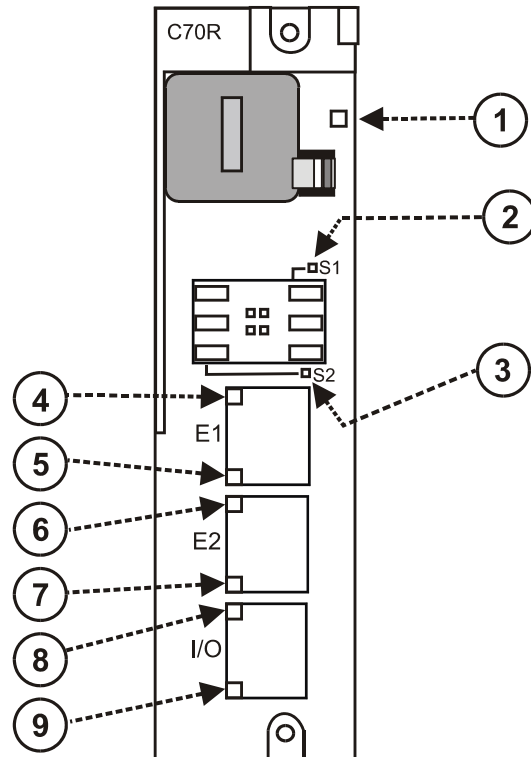

Figure 79 – LED Indicators on Controller CPUs (See Table 27)
When the Controller Status LED (Figure 79 on page 142, item 1) is flashing red, consult Table 28.